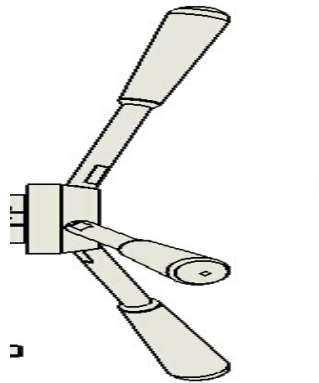

Figure 9
Step 10 Put the three handles into the handle seat holes and use a wrench to tighten Figure 9